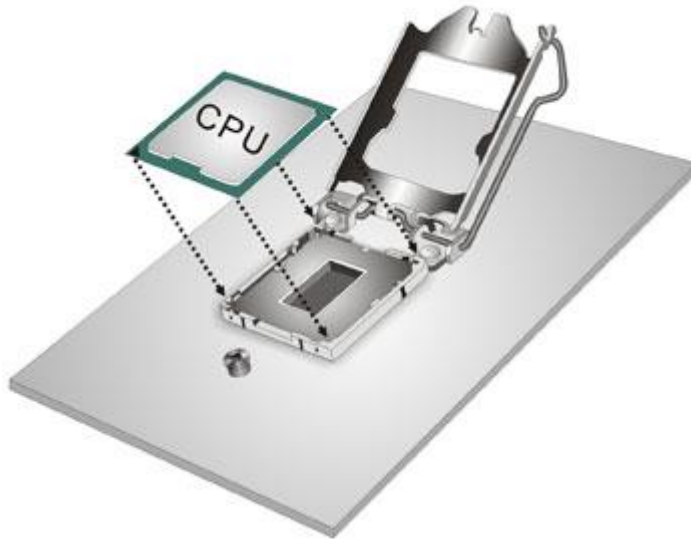

Figure 4-3: Insert The Socket LGA1200 CPU
Step 7: Insert the CPU. Gently insert the CPU into the socket. If the CPU pins are properly aligned, the CPU should slide into the CPU socket smoothly. See **Figure 4-3**.